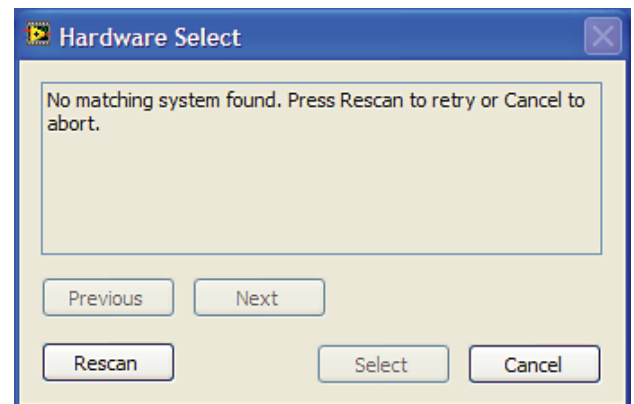

Figure 19. Connectivity Error Alert
2. If the **AD7176-2** evaluation system is not connected to the USB port via the **EVAL-SDP-CB1Z** when the software is launched, a connectivity error displays (see Figure 19). Connect the evaluation board to the USB port of the PC, wait a few seconds, click **Rescan**, and then follow the on-screen instructions.